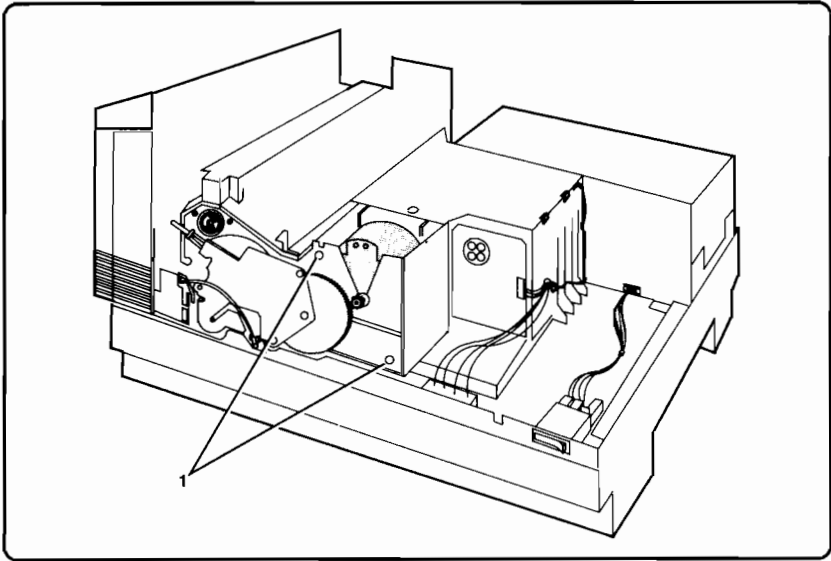

Figure 6-42. Main Motor Removal
6. Free the cable from its retainer, then remove the screws (2) securing the Main Motor (see Figure 6-42, callout 1) and then remove the motor.